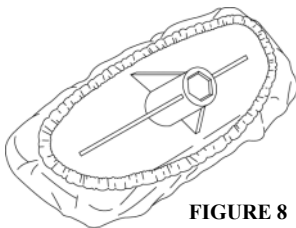

FIGURE 8
1. Stretch Fabric Steaming Cloth around Utility Attachment Head as shown (FIGURE 8).